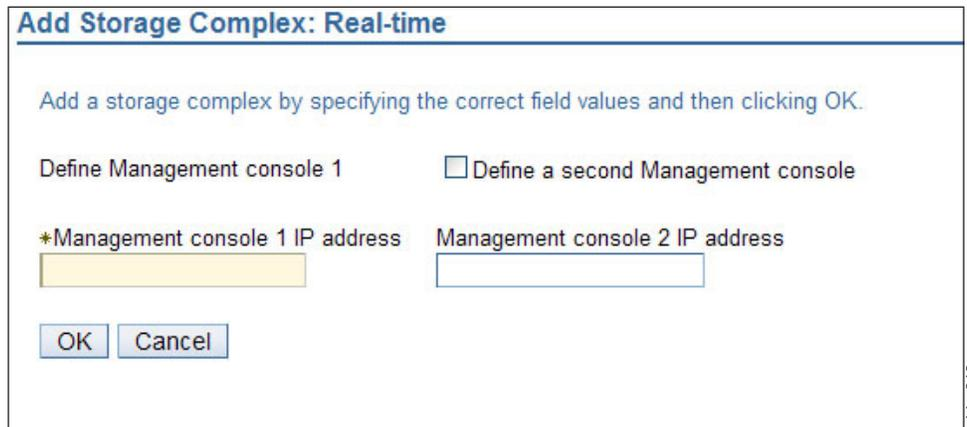

Figure 248. Add Storage Complex Screen
7. Click on **Select Action**, and from the resulting drop-down menu select **Add Storage Complex**. Click **Go**. Figure 248 displays.